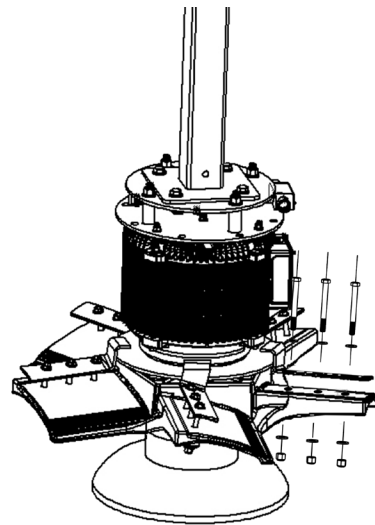

FIG.18
1. Clamp a blade between blade topper and hub using 3/8" bolts, washers and nylocks (Fig.18).